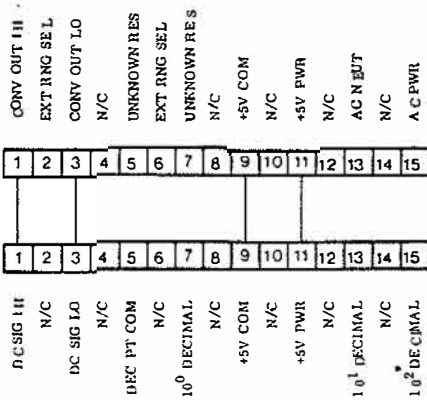

Figure 3. Connector Diagram for RM-351/OHM/115 or 230
3. WIRING. Figure 3 provides wiring information for the connectors. Connect contacts 1, 3, 9 and 11 of the upper connector to the corresponding contacts on the lower connector. Connect the unknown resistance between contacts 5 and 7 of the upper connector. To display a decimal point, jumper between contact 5 and contact 7, 13 or 15 on the lower connector, depending upon which decimal point is to be displayed. See below.